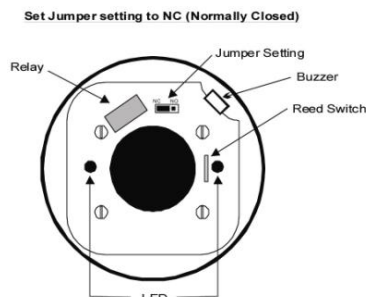

Fig. 4 Schematic of detector structure When front cover is open.
1. To adjust the normal condition of the relay to "normally closed" (NC),
2. Refer to Figure 4. There is a jumper head next to the relay on the PCB. Remove the jumper head and reinsert it in the NC position.